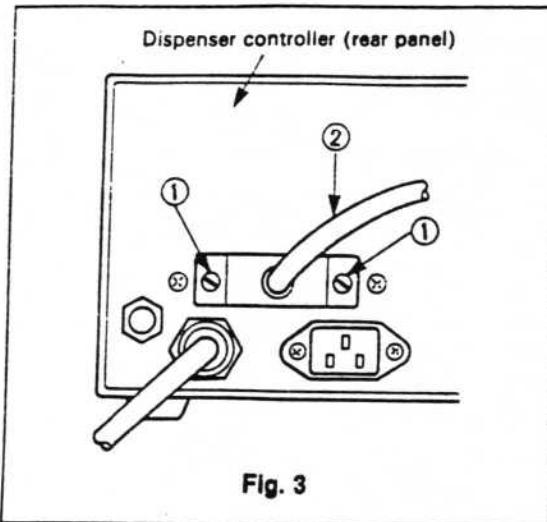

Fig. 3
- (1) Loosen the DISP IF set screws (①, x 2) (see Fig. 3).
- (2) Disconnect the DISP IF cable from the DATA I/O terminal on the rear panel of the dispenser controller (see Fig. 3)